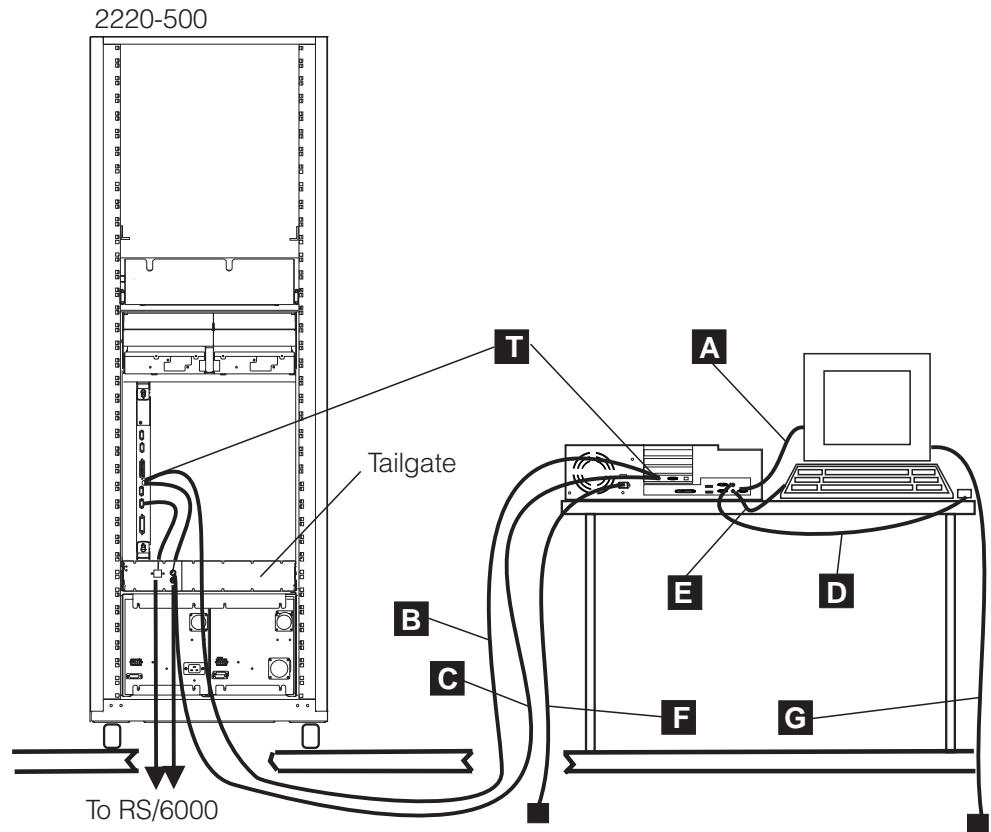
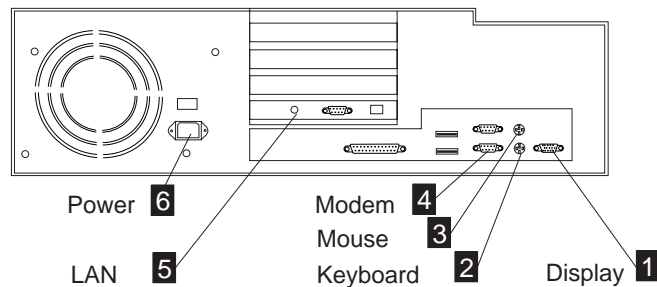

Figure 1-2. NAS, Cables Installation
Figure 1-3. NAS Connectors
3. ____ Refer to Figure 1-2 on page 1-3 to locate the cables and Figure 1-3 on page 1-3 to locate the NAS connectors, then install the following cables: